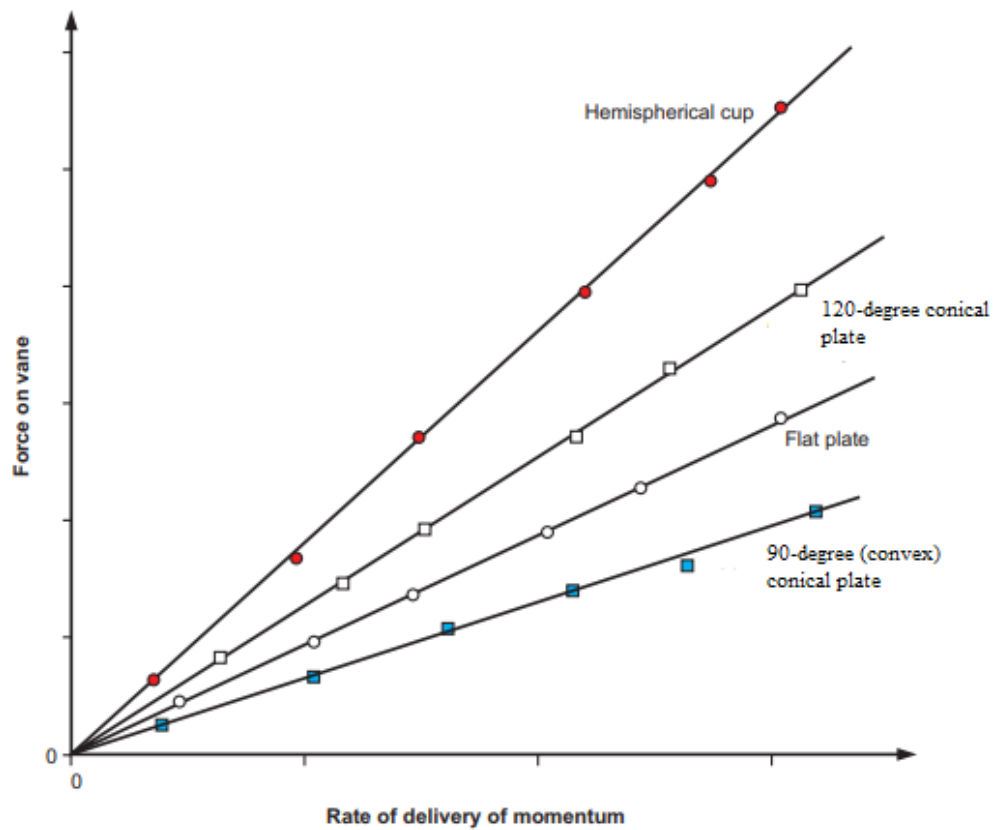

Figure 2. Rate of Delivery of Momentum (m^3/h) versus Force on Plates (N).
4. FIRST GRAPH: Draw flowrate (m³/s) versus measured force (N) as in Figure 2.
5. SECOND GRAPH: Draw flowrate (m³/s) versus calculated force (N) as in Figure 2.